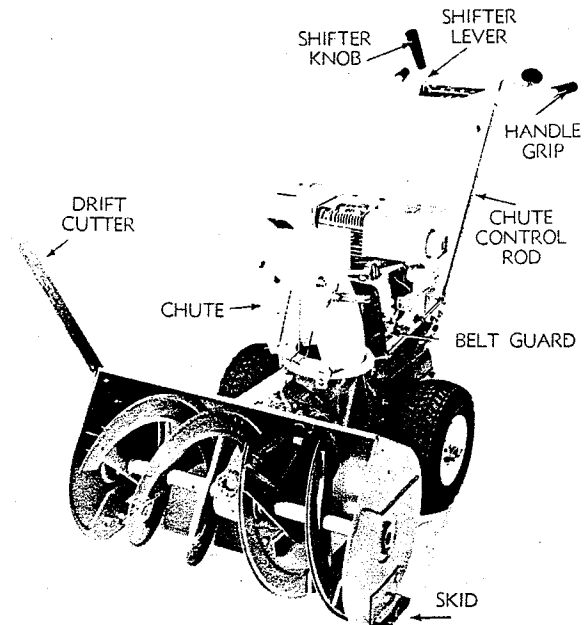

FIG. 3
2. Slide chute control rod through hole in top part of handle bar shroud (Fig. 3). Secure rod to universal with special stainless cotter pin (Fig. 2). (Red or blue).
4. Attach the skids (Fig. 3) to auger housing with carriage bolts, flatwashers, and hex nuts. Insert the carriage bolts from the outside in.
6. Attach knob to shifter control. (Fig. 3).
7. Attach drift cutter (Fig. 3) to snow thrower (especially for deep snow conditions). Be sure the slanted edge of the drift cutter is towards the front and that the capscrews go from the outside in.
This lever engages and disengages drive to the wheels as well as control direction and speed of travel. The shifter lever is located in top of handle bar shroud. (Fig. 3).
This rod is used to change the direction of snow discharge. It is located in the side of the handle bar. (Fig. 3). Turn knob clockwise or counter-clockwise for full 180° rotation of snow chute.
The deflector determines the distance snow is thrown. It is located on top of the snow chute. (Fig. 3). Moving top of the deflector down decreases the distance of throw and raising the deflector increases the distance of throw. The deflector can be simply moved by loosening the two wing nuts, adjusting and then retightening the nuts.
The skids (Fig 3), mounted on each side of the auger housing, adjust the distance the scraper blade is raised above the ground surface. When removing snow from a gravel or uneven surface, it is advisable to keep the scraper blade as high above the surface as possible to prevent possible damage to the auger. On a blacktop or concrete surface, keep the scraper blade as close to the surface as possible. To adjust skids, raise Snow Thrower a few inches off the ground and loosen the nuts securing the skids to the auger housing. Move skids up or down to desired position and tighten nuts securely. Adjust both skids to the same height to keep the auger level.
- Remove belt guard. (Fig. 3).